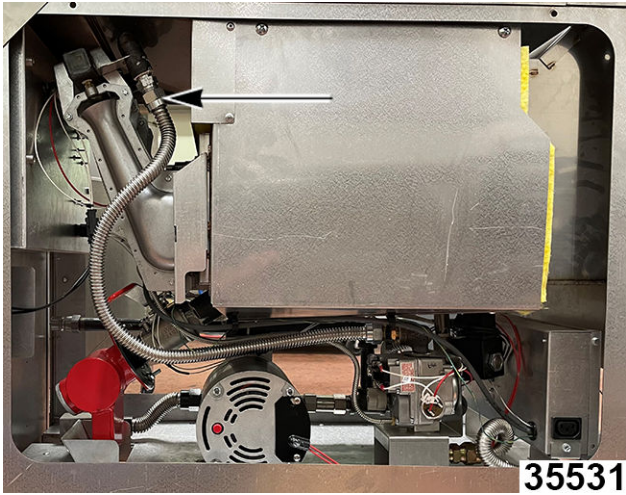

Fig. 96
6. Disconnect gas lines at burner manifold (1, Fig. 96)